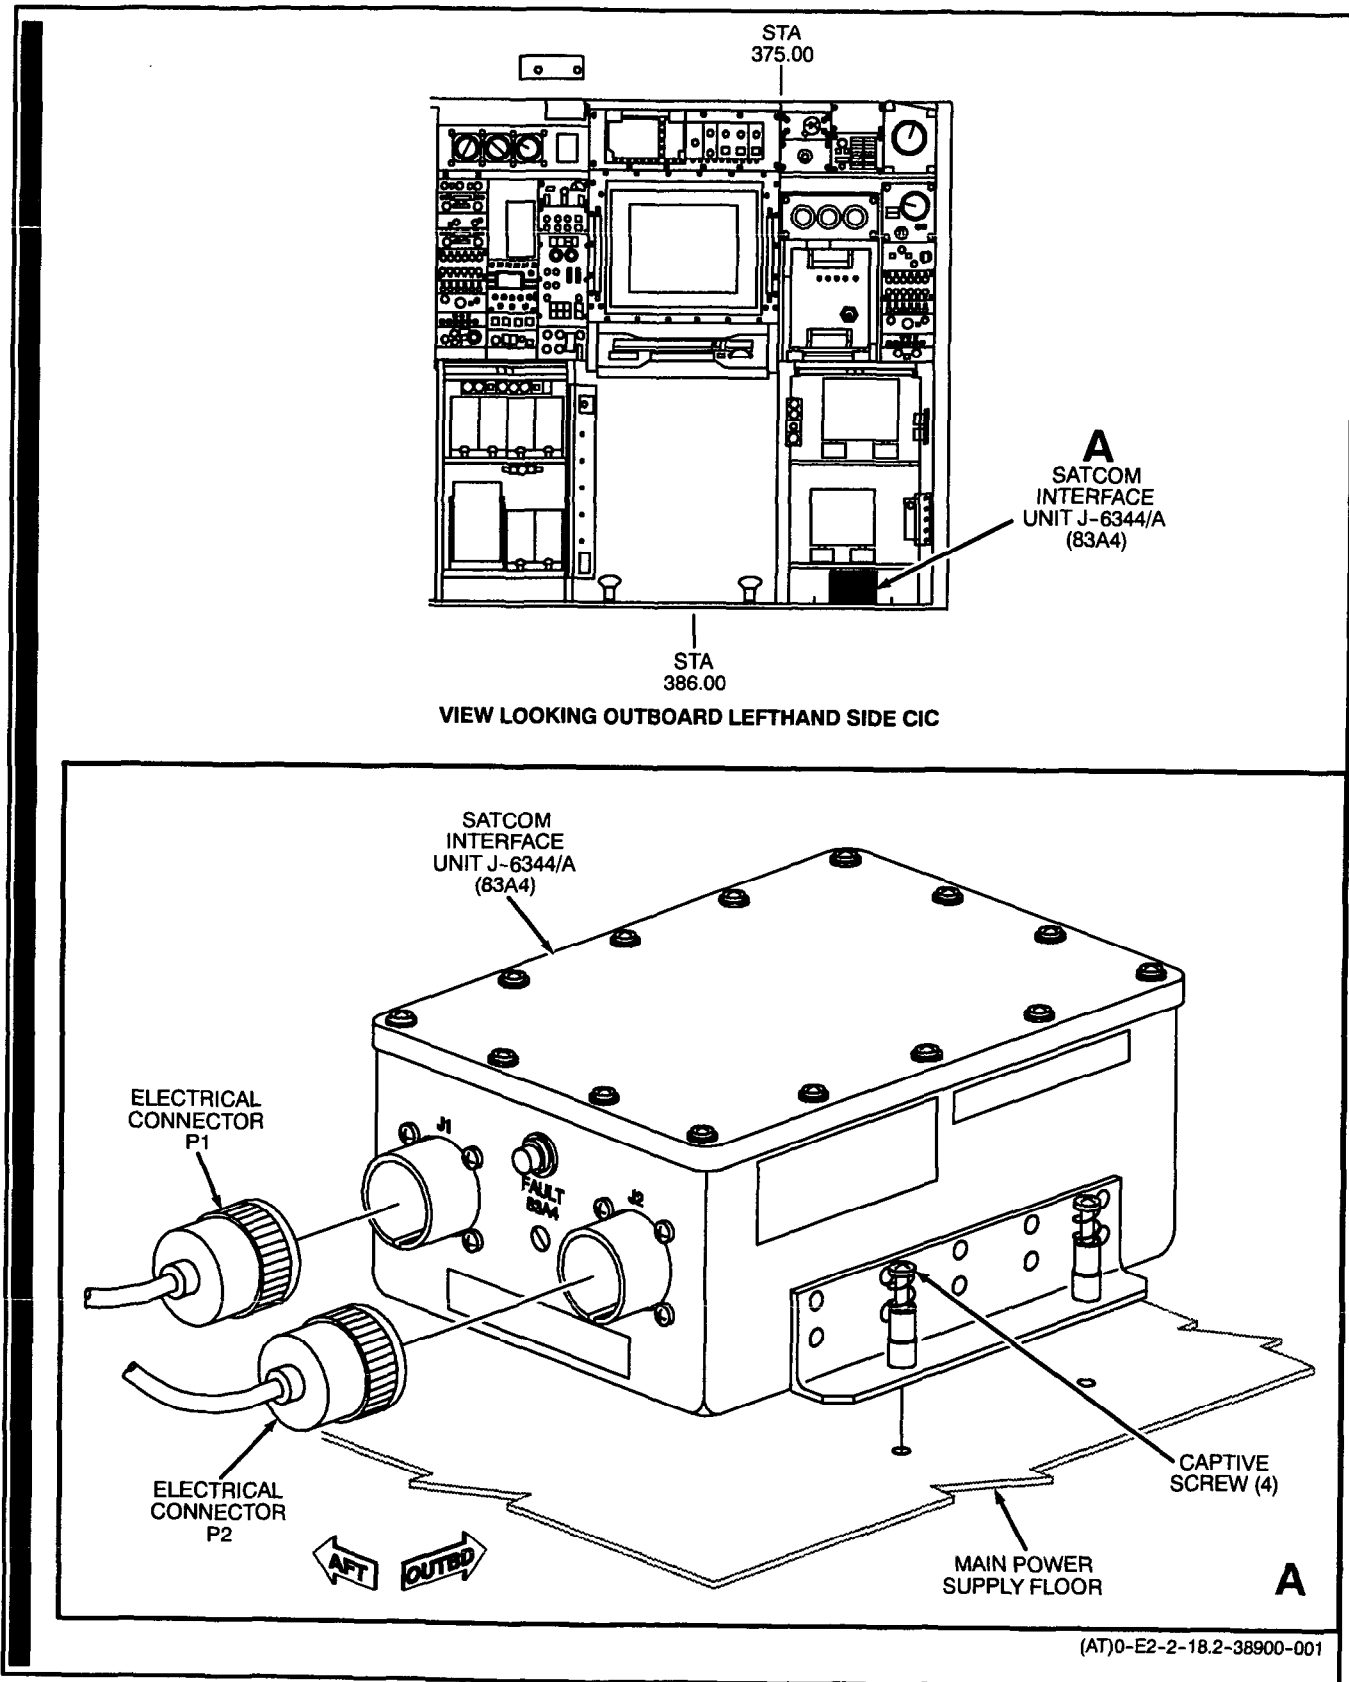

Figure 1. Removal and Installation of SATCOM Interface Unit J-6344/A (83A4)
**1. REMOVAL. (Figure 1.)**
## 2. INSTALLATION. (Figure 1.)